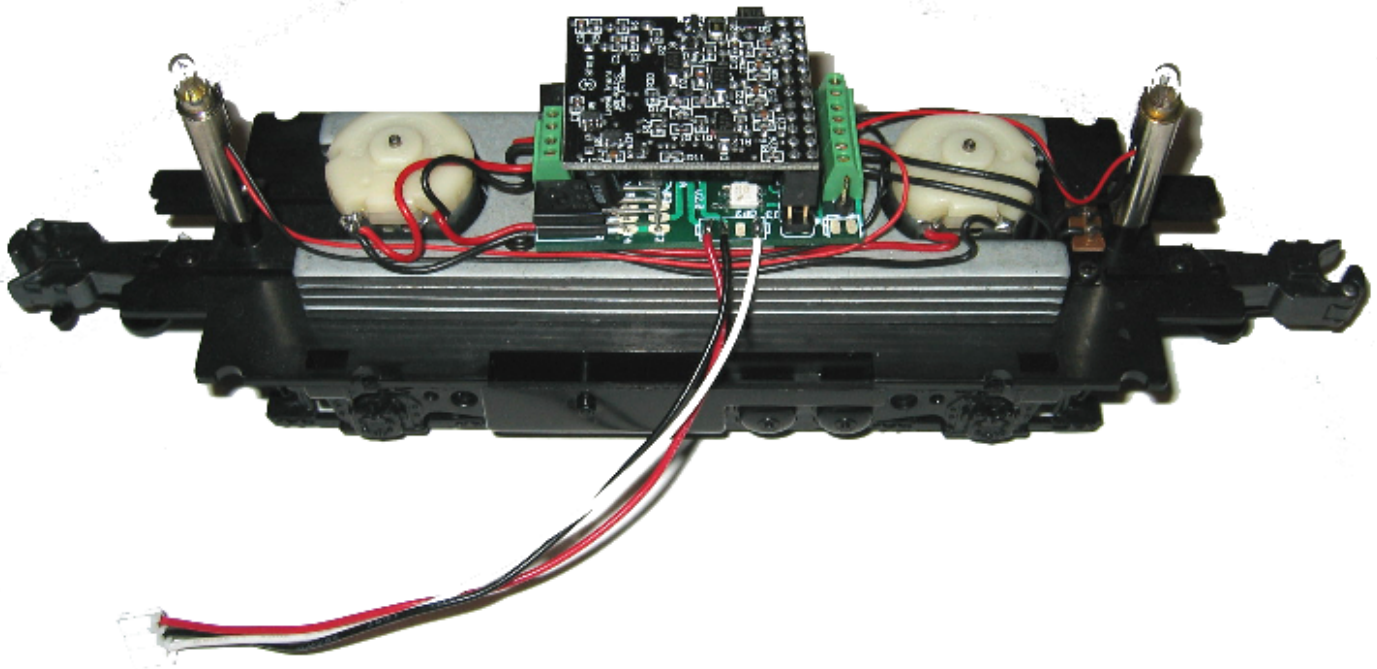

Figure 5
7. Double check all wiring, then install the R2LC receiver board onto the Beep Commander v2 circuit board as shown in figure 5 below. Use caution not to miss by one pin pair to either side, as this will certainly damage the components on both cards!